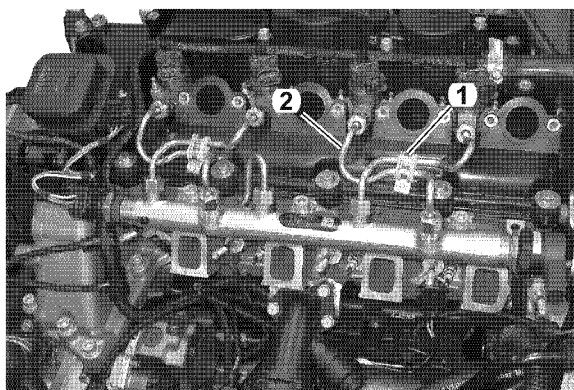

Figure 6-9
5. If removing only one fuel injector, remove the clamp (1, **Figure 6-9**) joining the fuel injector lines to each other.
6. Remove high-pressure fuel line (2, **Figure 6-9**) from injector and fuel rail. *See Remove and Install High-Pressure Fuel Lines on page 6-14.*